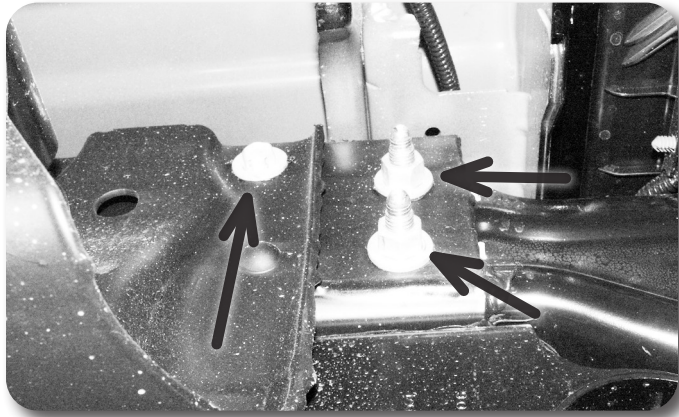
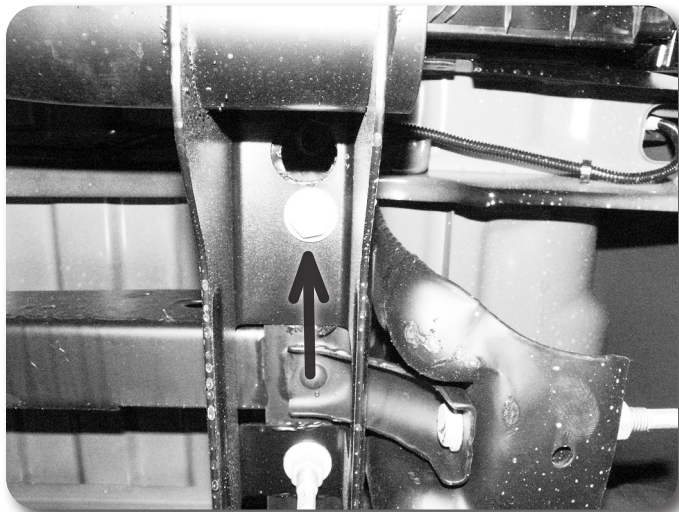

Figure 22A
Figure 22B
9. Remove the 4 bolts (8 total) mounting the rear bumper to the frame rails. 3 are accessed from the side of the frame Figure 22A and one up through the bottom Figure 22B. Remove the bumper from the vehicle. Save all hardware.